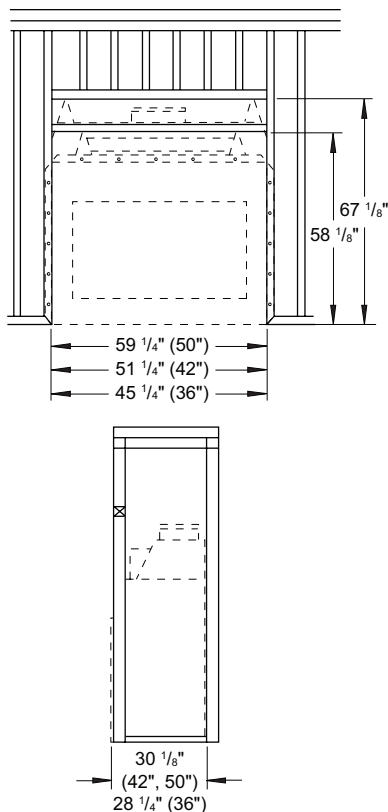

Figure 6 - Rough Opening Dimensions for Installing in a Wall
1. The location must allow for proper clearances (see Figures 6 and 7).
1. Frame opening for fireplace using dimensions shown in Figures 6 and 7.